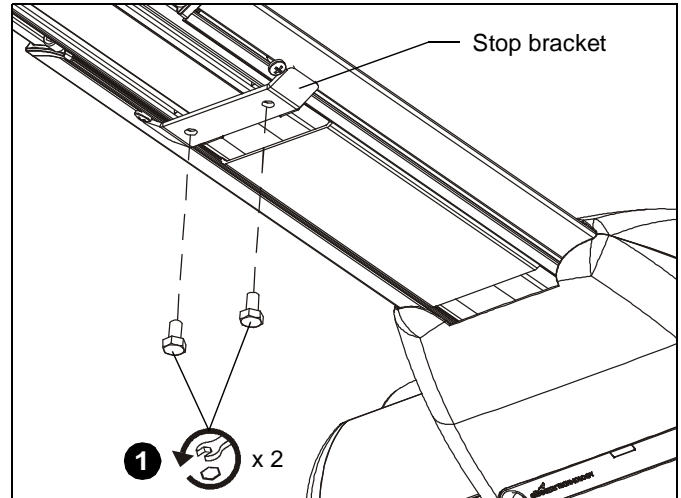

Figure 72
1. Remove two bolts holding stop bracket in place on underside of short throw projector mount. (See Figure 72)